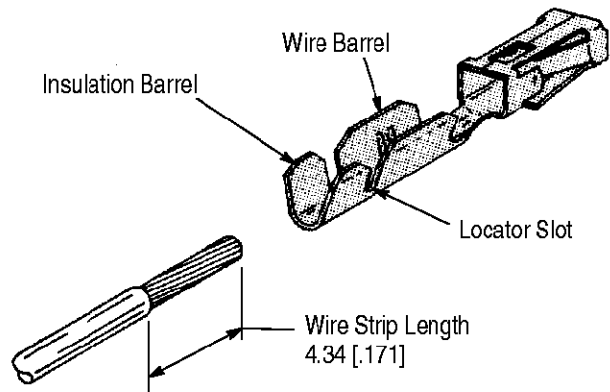

Figure 2
The contact locator/insulation stop has two functions. First, it is used to position the contact between the crimping dies, and second, it aids in locating the wire in the contact. In use, it rests in the contact locator slot. See Figures 2 and 3.
AMP\* Hand Crimping Tool 90274-2 is designed to crimp the AMPMODU\* MOD I loose-piece (LP) contacts listed in Figure 2. Read these instructions thoroughly before crimping any contacts.
Refer to the chart in Figure 2 and select wire within the specified wire size and insulation diameter. Strip the wire to the length indicated—do NOT cut or nick the wire strands.